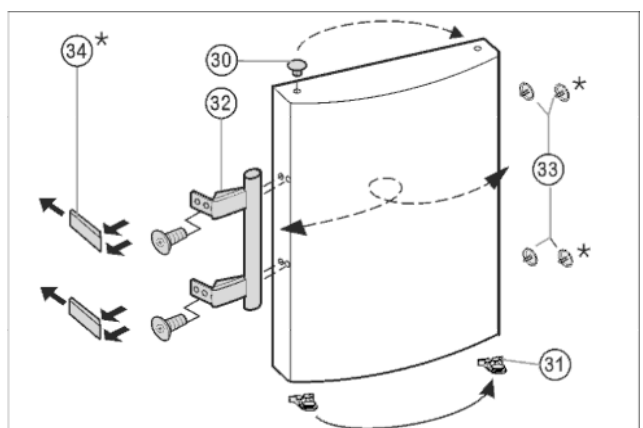

Fig. 8
- ▶ Lift the stopper *Fig. 8 (33)* out of the door bearing bush and transfer it.
- ▶ Dismantle the door handle *Fig. 8 (32)*, stoppers *Fig. 8 (33)* and pressure plates* *Fig. 8 (34)* and transfer to the opposite side.